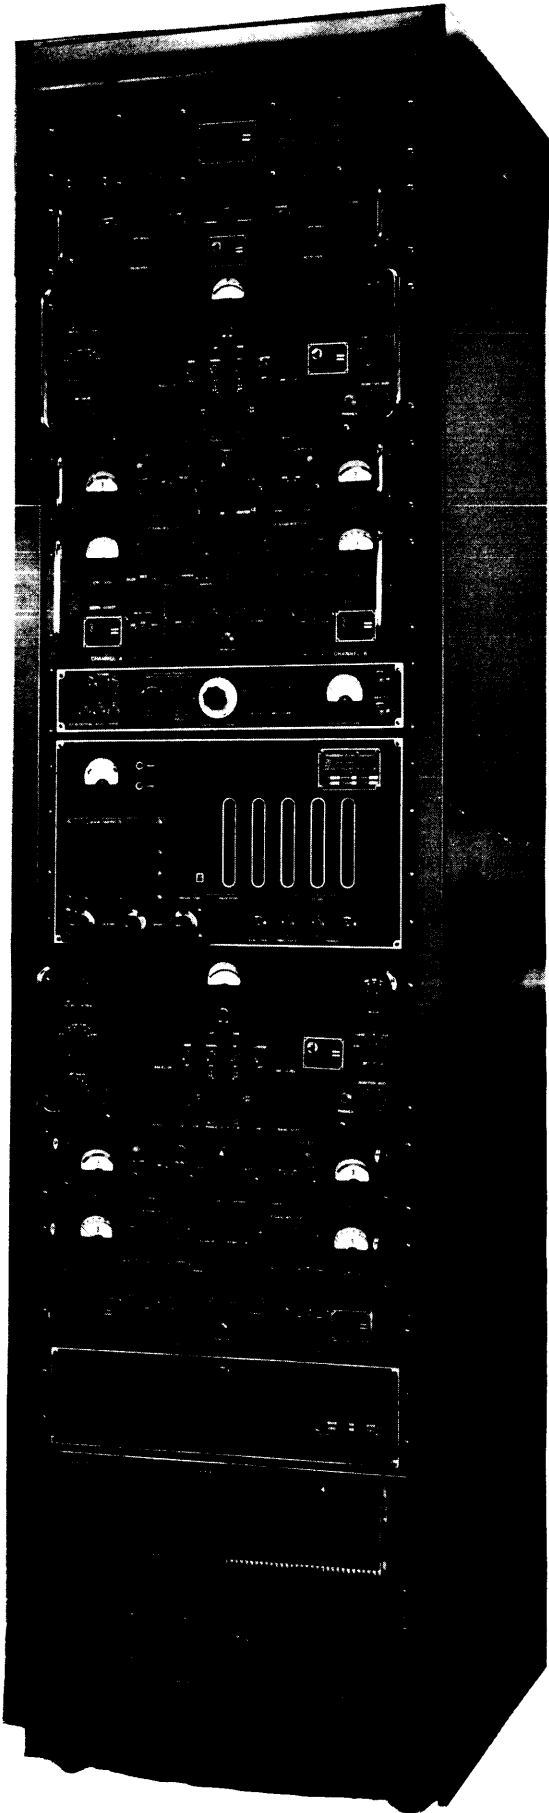

FIGURE 1-1. Dual Diversity Receiver, Model DDR-7B
a. GENERAL - Model DDR-7B Dual Diversity Receiver (figure 1-1) is two separate receiver systems. Each system receives CW, MCW, AM, SSB, ISB and FSK transmission and the two systems may be operated singly or in diversity. The input frequency range is 0.54 - to 32.3-mc in six bands. The receiver is continuously tunable throughout the range and requires no plug-in units. Two selectable sideband widths enable reception of 3.5-kc or 6-kc single sidebands or two 3.5-kc or 6-kc independent sidebands. In 6-kc ISB (independent sideband) reception, diversity operation renders two separate 6-kc width audio outputs; each output can be further divided into 2 discrete voice channels (making a total of 4 discrete channels) by an external demultiplexer similar to TMC Model RMX-2 in associated receiving equipment, if desired.
Refer to table F (shipping List for DDR-7B) for parts and their functions. Install components as shown in figure 1-1 and make cable connections as described in figure A in Appendix of this manual. In some cases, some of the smaller parts may be partially assembled in shipment. The LSP-6, HSP-3, and DCP-2 units are shipped installed in the rack. The GPR-92, AFC-2A, NRC type 173 and 108 Oscillators, and SBS-I-1 units are slide-mounted; the track portion of the slides arrive installed in the rack. Referring to figure 2-1, follow this general procedure for installing slide-mounting units: